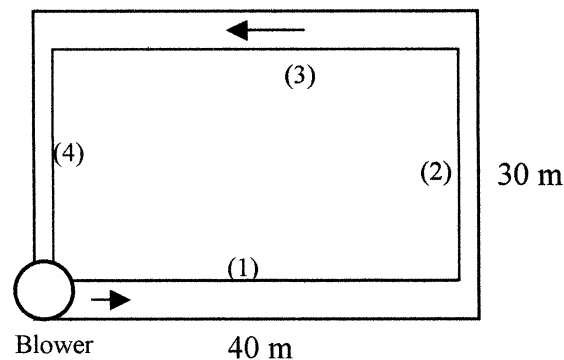

Fig. P6.117
**6.117** A blower delivers air at  $3000 \text{ m}^3/\text{h}$  to the duct circuit in Fig. P6.117. Each duct is commercial steel and of square cross-section, with side lengths  $a_1 = a_3 = 20 \text{ cm}$  and  $a_2 = a_4 = 12 \text{ cm}$ . Assuming sea-level air conditions, estimate the power required if the blower has an efficiency of 75%. Neglect minor losses.